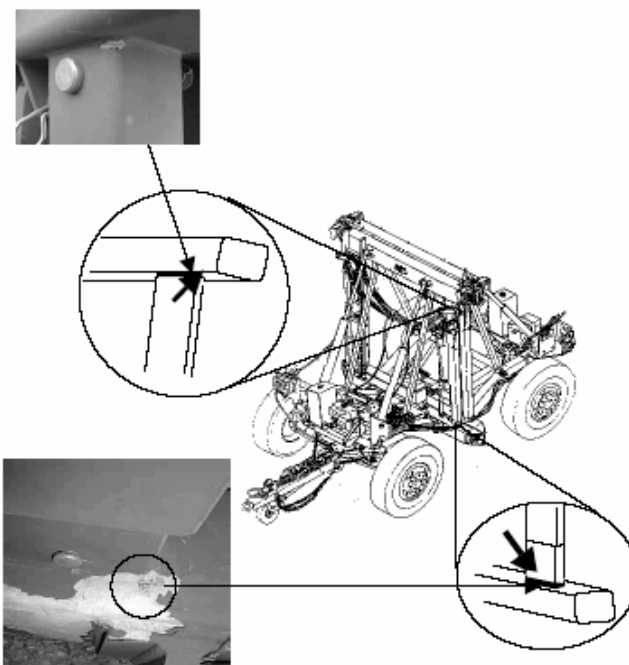

Figure 9-1. Illustration and location of cracks on the M1022 A-1 Dolly Set
b. The dolly set has had several mechanical problems since fielding. Problems include the hydraulic pump leaking, the cable assembly, and cracks to the frame structure. Cracks to the dolly set frame structure are the current and most significant cause of concern (Figure 9-1), and the reason for the high Non-Mission Capable (NMC) "dead-line" rate across the military. On 4 Feb 99, TACOM classified this deficiency as a Medium Category IIIC risk (minimal risk to humans).